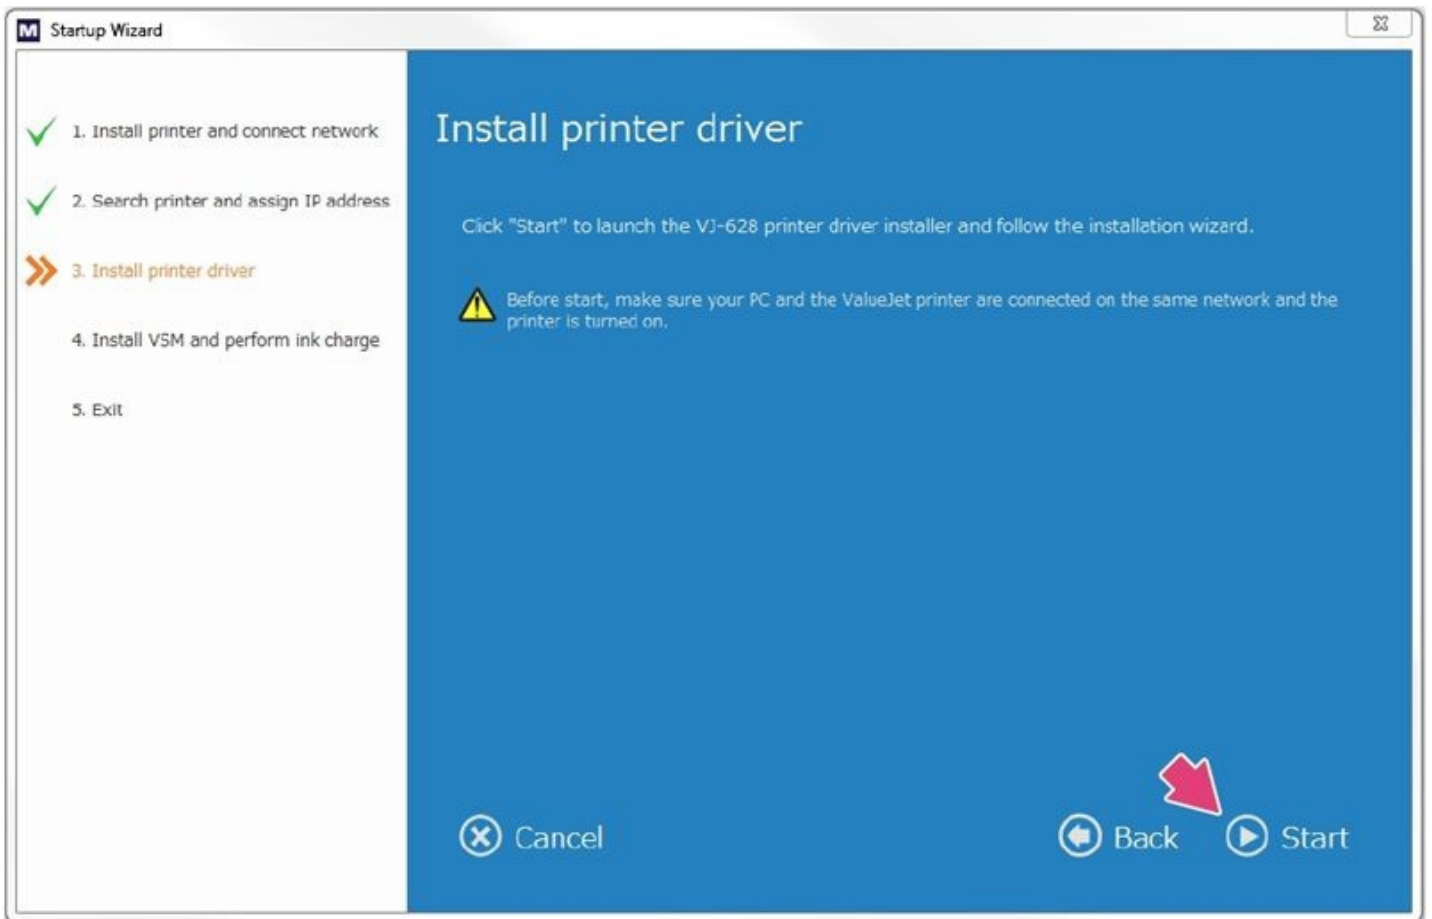

Figure 27
14. Select **Start** to launch the Mutoh OEM printer driver installer. See Figure 27.